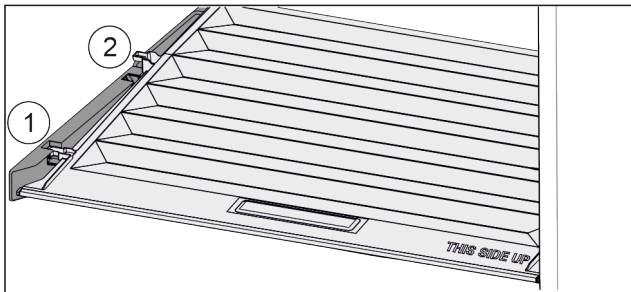

Fig. 103
- ▶ Pull the lid up at the front in the retaining parts to the opening Fig. 103 (1).
- ▶ Lift from the back and pull it up and out Fig. 103 (2).